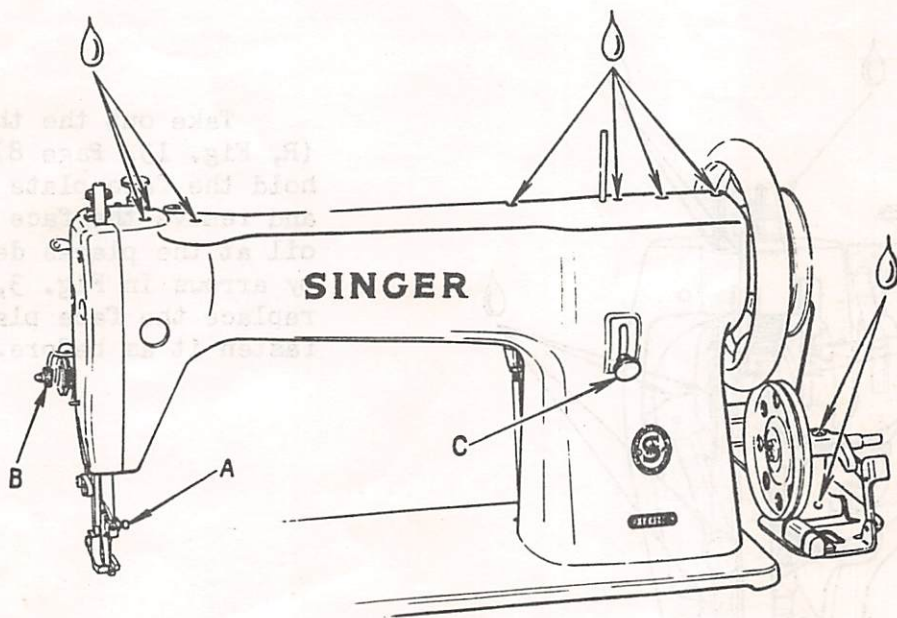

Fig. 1 Oiling Points at the Front of the Machine
Oil should be applied at the places indicated by arrows in Figs. 1, 2, 3 and 4, and when the machine is in continuous use, it should be oiled at least twice each day.
Turn the balance wheel over toward you until the needle bar moves up to its highest point; loosen the screw (A, Fig. 1, page 1) in the needle clamp and put the needle up into the clamp as far as it will go, with the long groove of the needle toward the left and the eye of the needle directly in line with the arm of the machine, then tighten the screw (A).
The tension on the needle thread should only be regulated when the presser bar is down. Having lowered the presser bar, turn the small thumb nut (B, Fig. 1, page 1) at the front of the tension discs over toward you to increase the tension. To decrease the tension, turn this thumb nut over from you.
The length of stitch is regulated by the thumb screw (C, Fig. 1, page 1) in the slot on the front of the upright part of the arm. To lengthen the stitch, loosen the thumb screw (C) and move it downwardly. To shorten the stitch, loosen the thumb screw (C) and move it upwardly. When the desired length of stitch has been obtained, tighten the thumb screw (C).